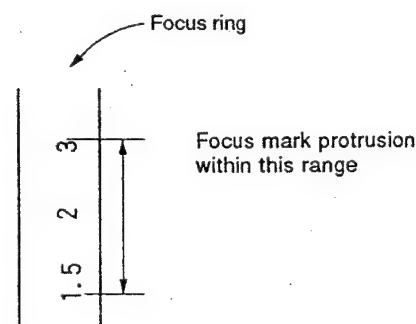

Fig. 4-11.
- 9) While holding the flange back adjusting Pin ② to prevent further rotation, retighten the flange back setscrew ①.
- 10) With the zoom ring fixed at its WIDE end, turn the focusing ring and set it to the position that provides the optimum definition image of the wedge. Check to assure the focusing mark protrusion position is within the range shown in Fig. 4-11. Also, rotate the focusing ring to the close (1.1 m) and far (∞) extremes and confirm that the wedge is no longer in focus.